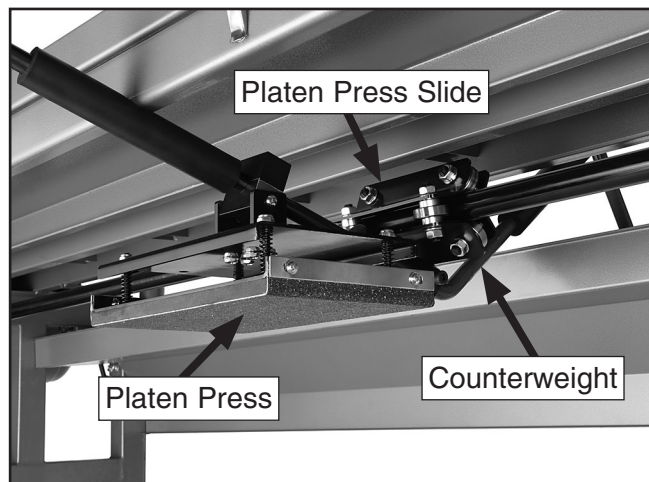

Figure 28. Platen press and counterweight.
18. Insert the platen press assembly and the platen press counterweight into the platen press slide, then tighten the lock lever and cap screw, as shown in **Figure 28**.